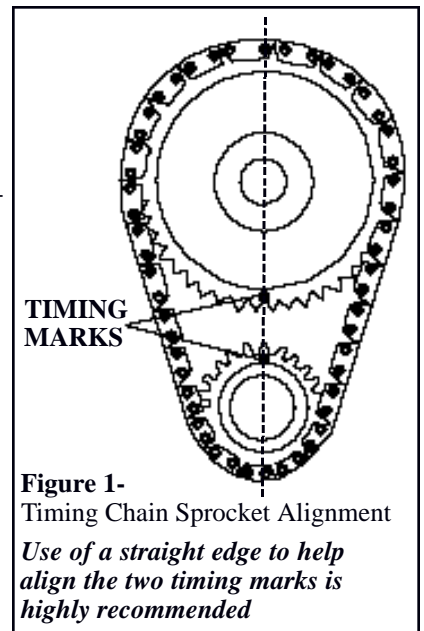

Figure 1-
13. Rotate engine until timing marks are aligned as shown in Figure 1.
Install camshaft with timing marks lined up as recommended by factory specifications. See Figure 1.
After the cam is installed and timed correctly (see Figure 1), it will be necessary to check each pushrod for correct lifter pre-load.